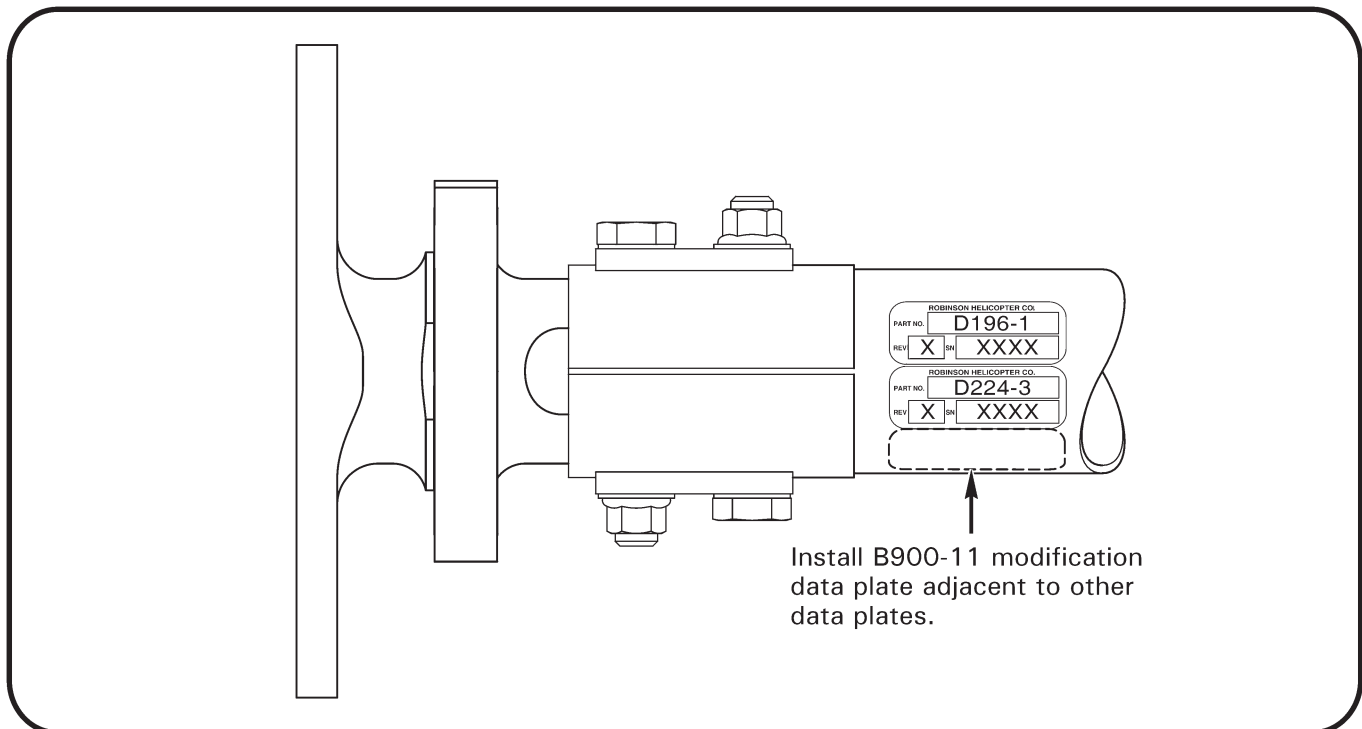

FIGURE 1
7. Refer to Figure 1. Clean area where B900-11 data plate will be installed using acetone. Remove liner from back of data plate and press plate firmly in location shown. Apply pressure uniformly to remove air pockets and to bond edges.